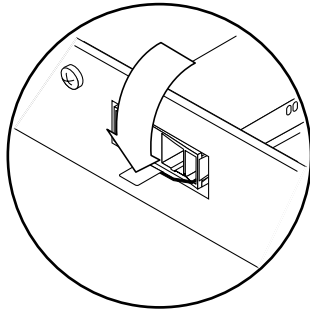

FIGURE 1-4 Moving the Tab Into the Locked Position
3. Move the bail down into the locked position (FIGURE 1-4).